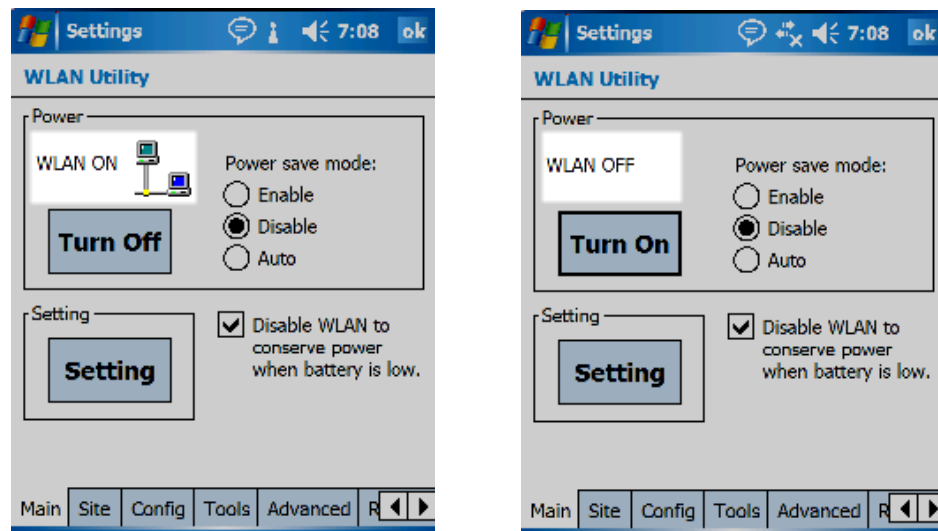

Figure 38: WLAN Utility, shown ON and OFF
3. From the WLAN Utility window, tap the **Turn Off** button to reset the IP address. The message changes from WLAN ON to WLAN OFF and the WLAN icon disappears, indicating that the wireless adapter has been shut off (Figure 38).